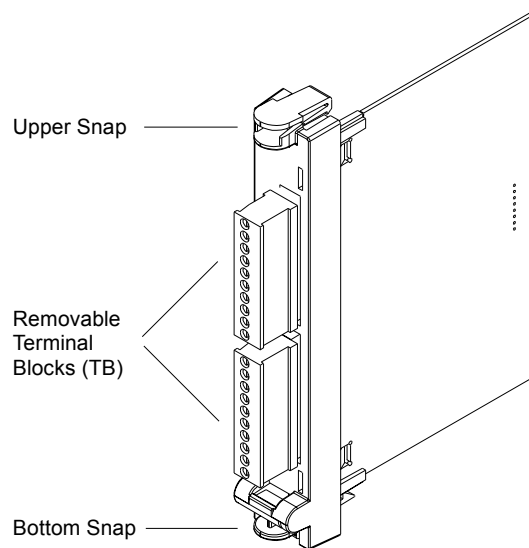

Figure 15
The 16 Digital Input (DI) (see Figure 15) can receive up to 16 isolated status inputs from the user equipment. The 16 DI module transfers the data to the CPU module.